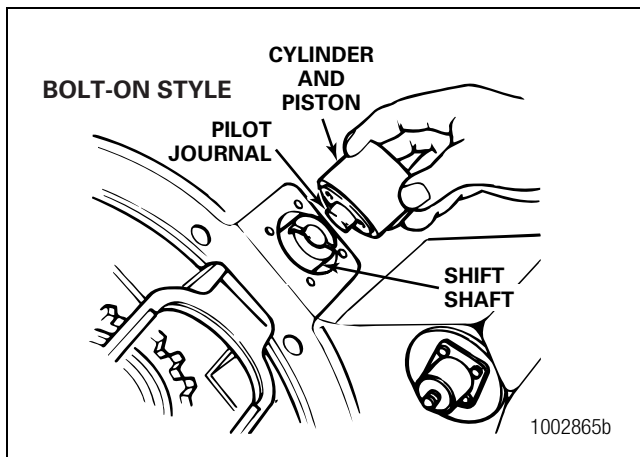

Figure 6.30
10. Install the cylinder into the housing bore. Verify that the pilot journal on the piston is against its bore on the shift shaft. Figure 6.30.